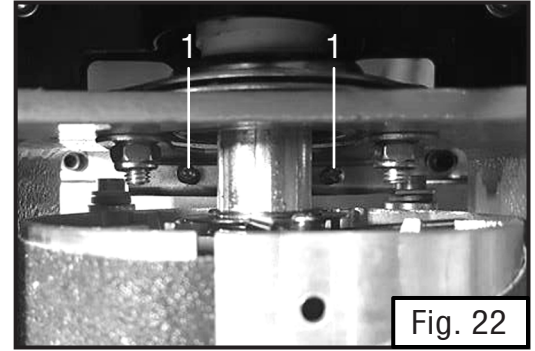

Fig. 22
3. There are two screws (Fig. 22 - 1) on both ends of the drum. To increase the roller pressure, evenly tighten all four Phillips screws by rotating them clockwise in small increments. To decrease the roller pressure, evenly loosen all four Phillips screws in small increments.